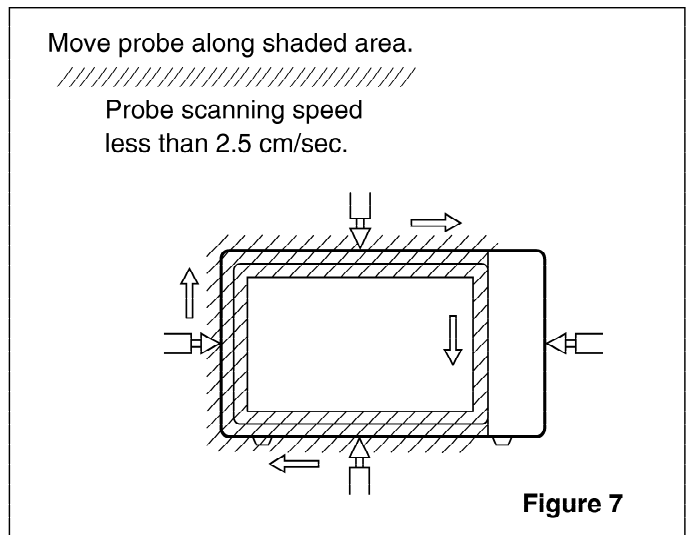

Figure 7
- (1) Pour  $275\pm 15\text{cc}$  of  $20\pm 5^\circ\text{C}$  water in a beaker which is graduated to 600 cc, and place the beaker in the center of the oven.
- (2) Set the energy leakage monitor to 2,450 MHz and use it following the manufacturer's recommended test procedure to assure correct result.
- (3) When measuring the leakage, always use the 2 inch (5cm) spacer supplied with the probe.
- (4) Operate the oven at its maximum output.
- (5) Measure the microwave radiation using and electromagnetic radiation monitor by holding the probe perpendicular to the surface being measured. (See Figure 7)